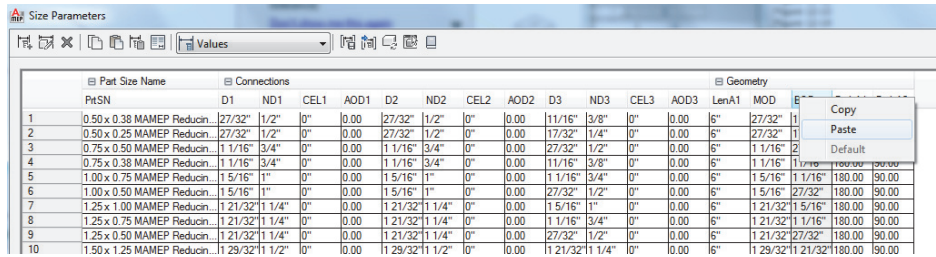

FIGURE 11.22
29. In the “Size Parameter” dialog, select MOD right-click and choose **Paste** (see Figure 11.22)